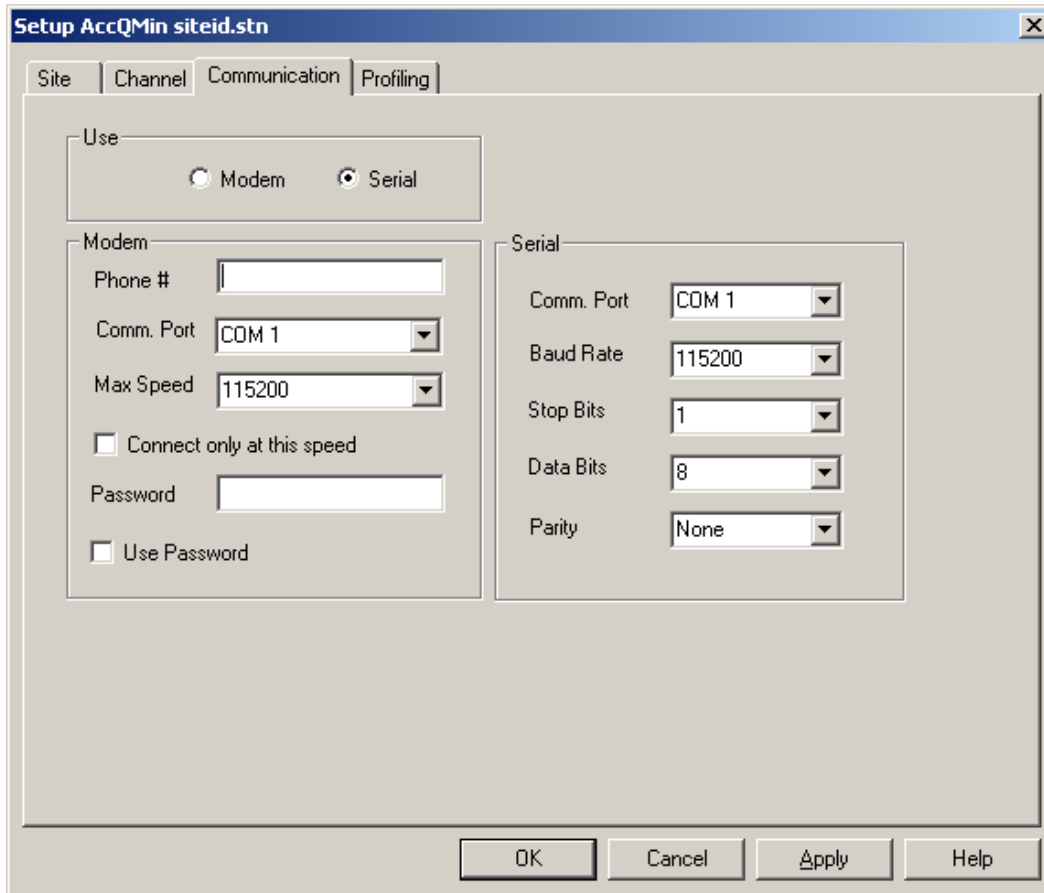

Figure 2-13 Communication tab
9. Communication Tab (Figure 2-13)